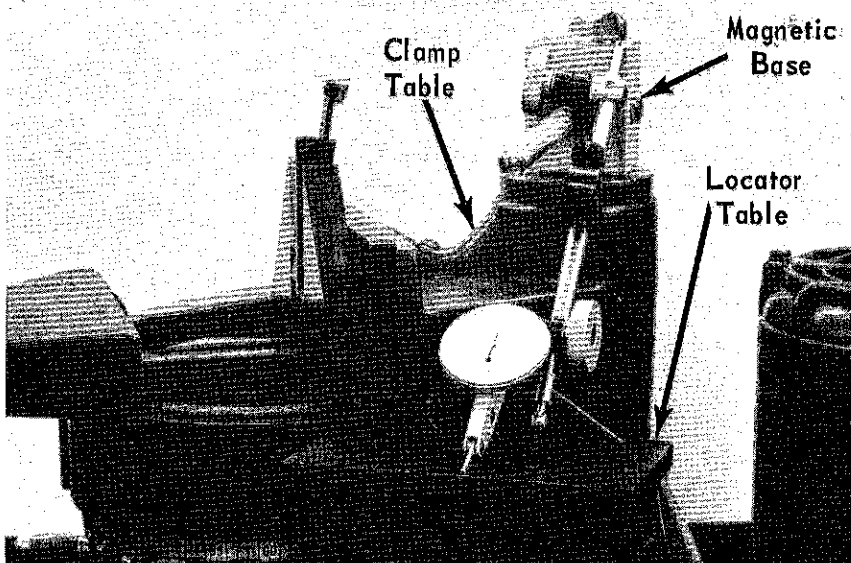

Figure 7
B. Method using **Magnetic Base Indicator** (*Figure 7*).